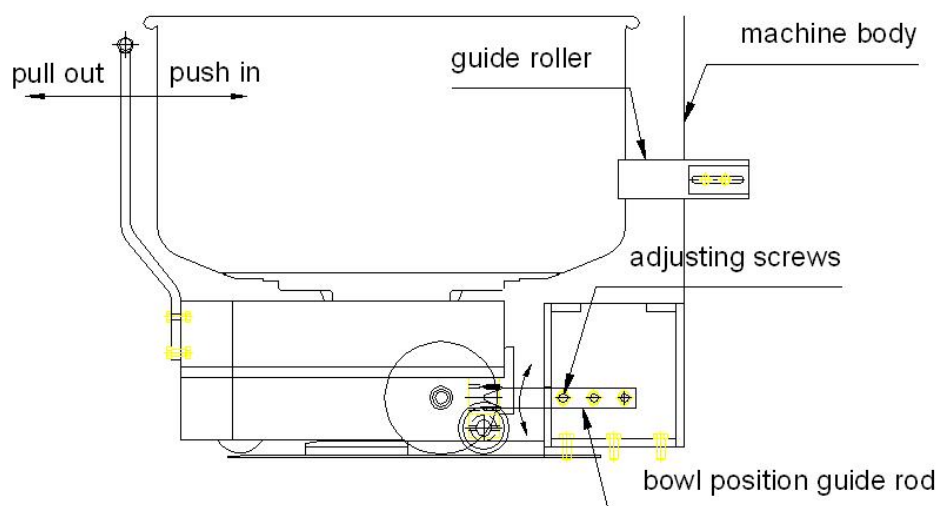

Figure 5
- 7) Push “UP” button. The head of the machine will move up to the top position and stop automatically. Loose the adjustment screws of the bowl position.(see Figure 5)
- 8) Pull the bowl out of the machine and push the bowl into the machine. Repeat as above until the bowl can be pushed in and pulled out easily. Tighten the adjustment screws of the bowl guide rod as shown in Figure 5. Then try to pull out the bowl and push it in again to make sure the bowl can go in and out smoothly.